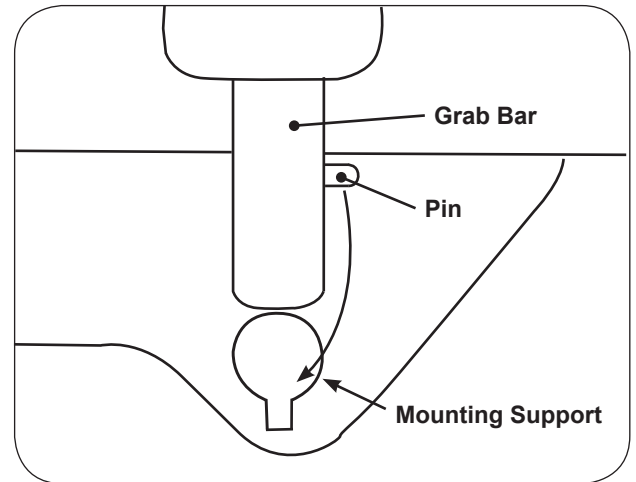

Figure 24. Grab Bar
3. Align pin on grab bar shaft with mating slot on side of table. See Figure 24.